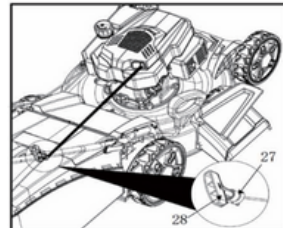

Fig. 12
3. Always return the starter handle (28) to the hook (27) located on the right side of the upper handle (2) (Fig. 12) when not using the starter.